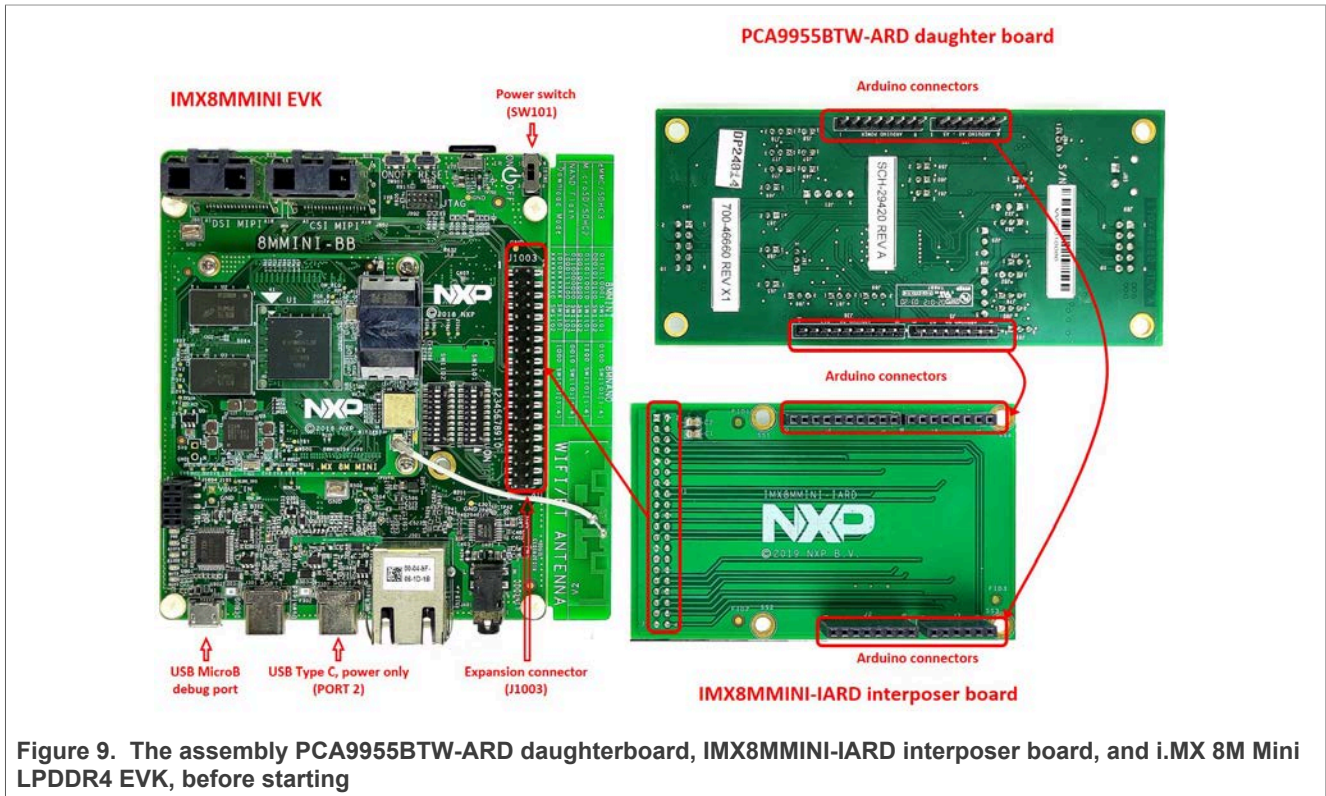
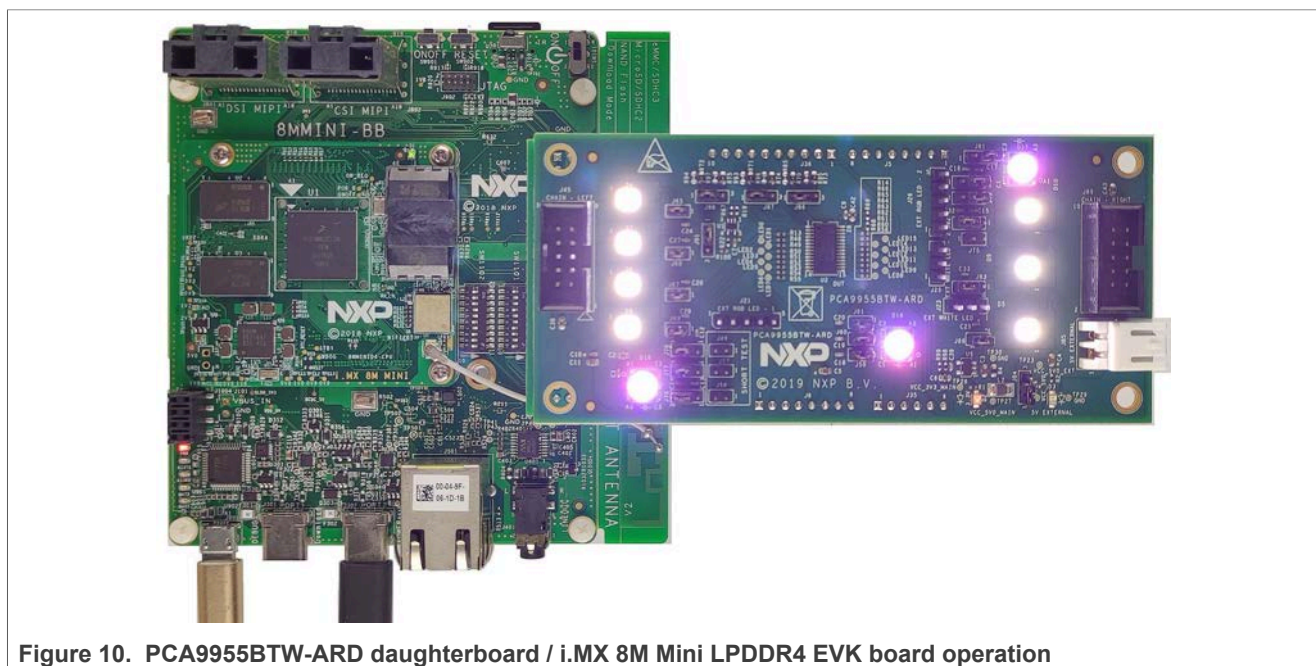

Figure 9. The assembly PCA9955BTW-ARD daughterboard, IMX8MMINI-IARD interposer board, and i.MX 8M Mini LPDDR4 EVK, before starting
Figure 10. PCA9955BTW-ARD daughterboard / i.MX 8M Mini LPDDR4 EVK board operation
To operate the setup, along with the EVK and the daughterboard, a third board must be included in the setup assembly. Figure 9 shows the necessary boards and how these boards are connected. The configuration consists of:
To power-up the EVK, an USB-C type cable connected to PORT 2 of the EVK is used. The power switch SW101 on the EVK board must be set to ON position to power-up the setup. Data communication is achieved by routing a separate USB (Micro-B type) cable from an USB port on the PC to debug port (J901) on the EVK (see Figure 9 and Figure 10).
2. Attach IMXMMINI-IARD connector plug J1 (located on the bottom of the board) into J1003 expansion board located on the top side of i.MX 8M Mini LPDDR4 EVK (see Figure 9);